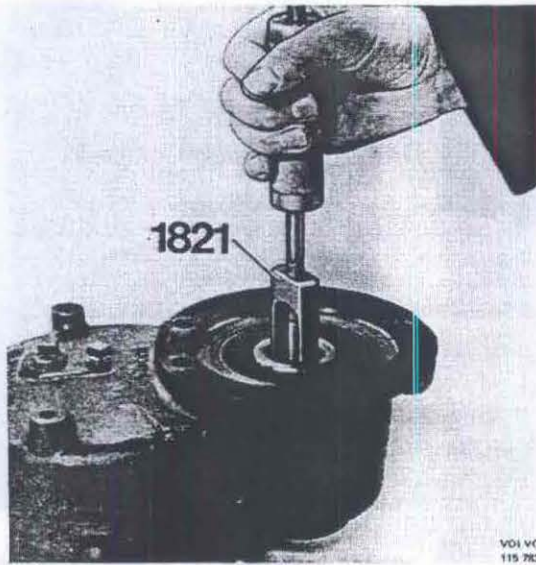

Fig. 46-119. Removing the wear ring
2. Hold the drive shaft and with a plastic mallet knock on the wheel carrier housing, see Fig. 46-119, so that the drive shaft releases from the gear wheel.
3. Remove the sealing wear ring with 1821, Fig. 46-119.